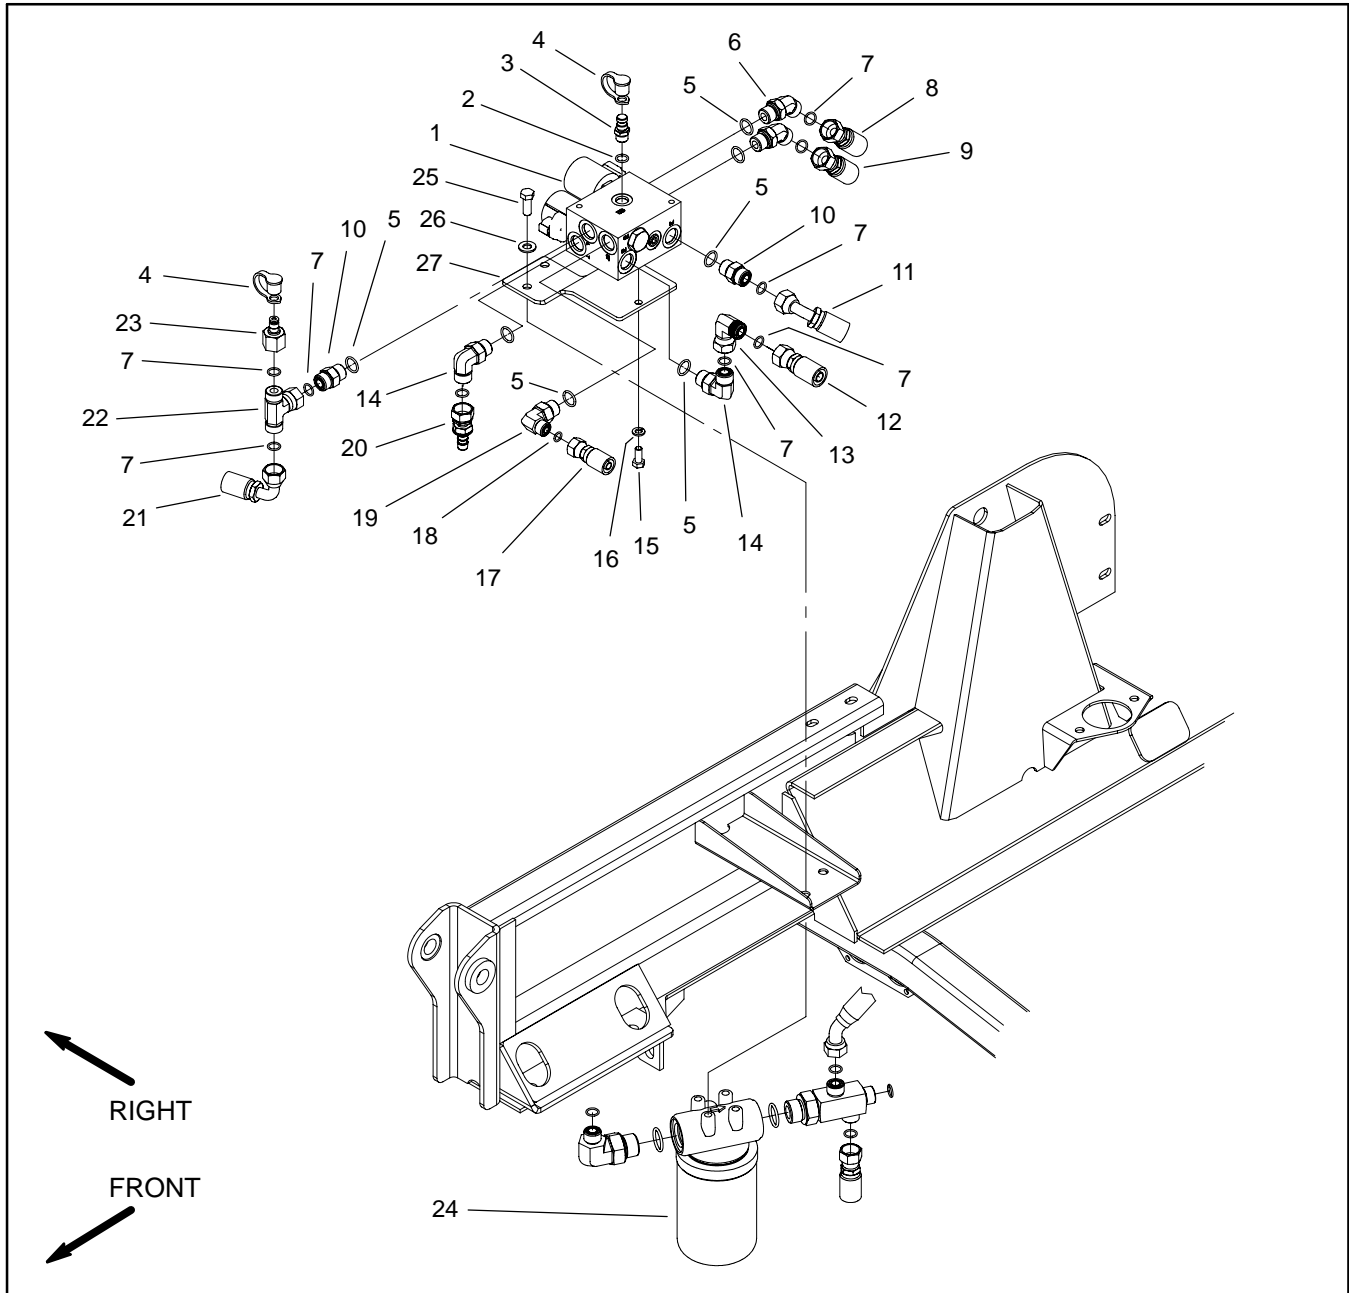

Figure 75
Removal (Fig. 75)
5. Remove hydraulic manifold from the frame using Figure 75 as guide.
Installation (Fig. 75)
2. Install hydraulic manifold to the frame using Figure 75 as guide.